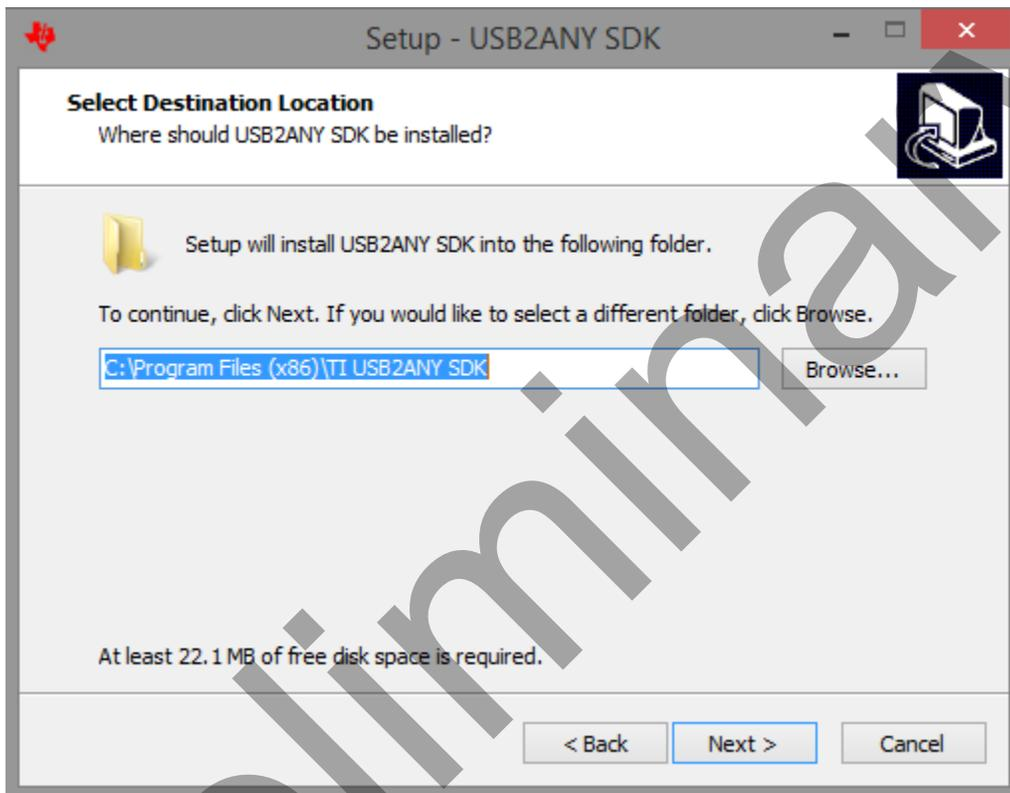

Fig 15: USB2ANY Installation Folder
13. Set the destination directories for the PGA300 GUI installation and press the **Next»** button as shown in *Fig 15: USB2ANY Installation Folder*.